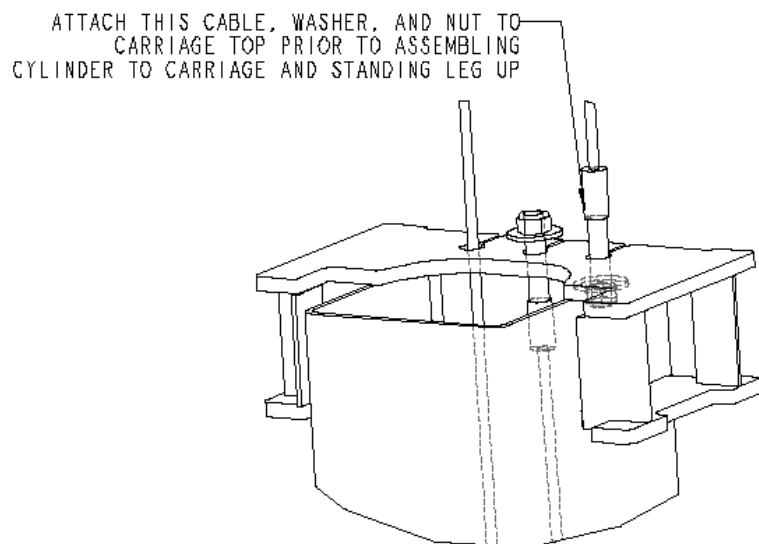

Figure 4
4. **Attach the cylinder mount or uprights.** Attach the cylinder mounts or uprights to the legs using four $\frac{1}{2}$ " X $1\text{-}\frac{3}{4}$ " bolts, washers and nuts as shown in figure 4.
- C. Install the cylinders to the uprights with 1/2" x 5" Grade 8 bolt, **cylinder bushings**, washers, and nut, figure 4. The port near the rod end of the cylinders should be positioned pointing to the leg's open side.
12. **Hydraulic system, figure 4.**
14. **Bleeding the hydraulic system, figure 4.**